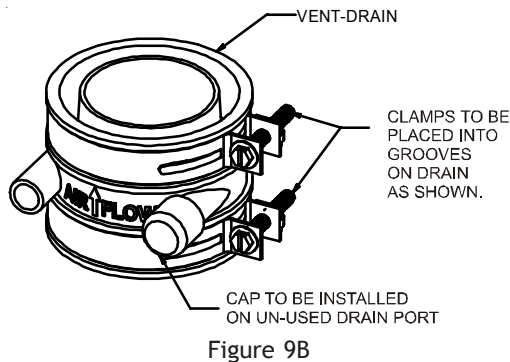

Figure 9B
**COMBUSTION AIR INTAKE OPTIONS:** The RF000142 coupling can be secured directly to the furnace intake coupling if condensation is a concern. If the RF000142 is used on the combustion air inlet, it must be installed with the arrow pointing up. It should be noted, the combustion air will actually be moving in a direction opposite of the arrow on the RF000142 coupling. It must have a field supplied, trapped drain tube free-draining to proper condensate disposal location. A loop in the drain tube can serve as a trap. The unused RF000142 drain fitting should be capped. A tee installed in the intake pipe is also an acceptable method of catching condensation. It must have a field supplied, trapped drain tube or pipe, free-draining to proper condensate disposal location. A loop in the drain tube can serve as a trap. (See Figure 9B)